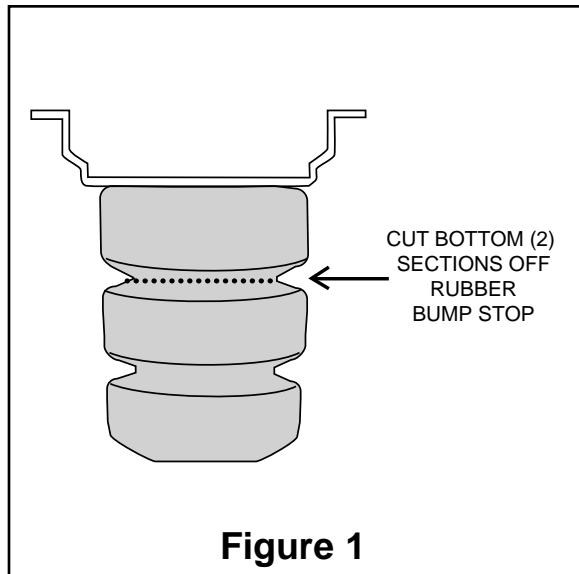

Figure 1
3. Cut the bottom two sections off the rubber bump stop from the upper spring seat and discard (Figure 1).